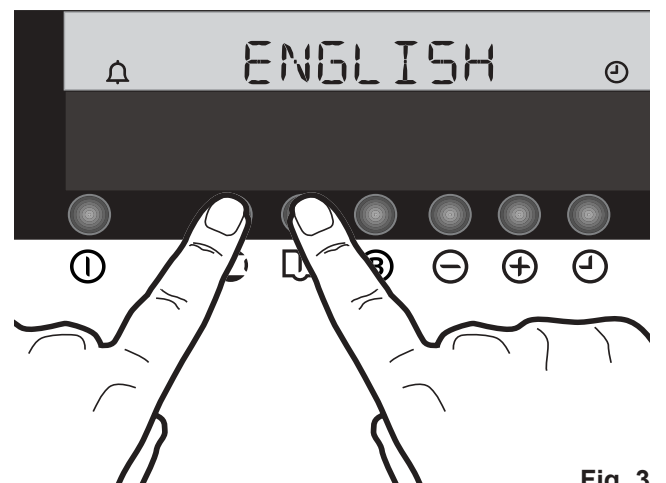

Fig. 3
1. Press the "Cooking Function Button" ⏸ and the "Recipe Selection Button" 📖 at the same time and keep them pressed for 2 seconds at least. The Electronic Control beeps once and the display shows the current language selection. (Fig. 3).